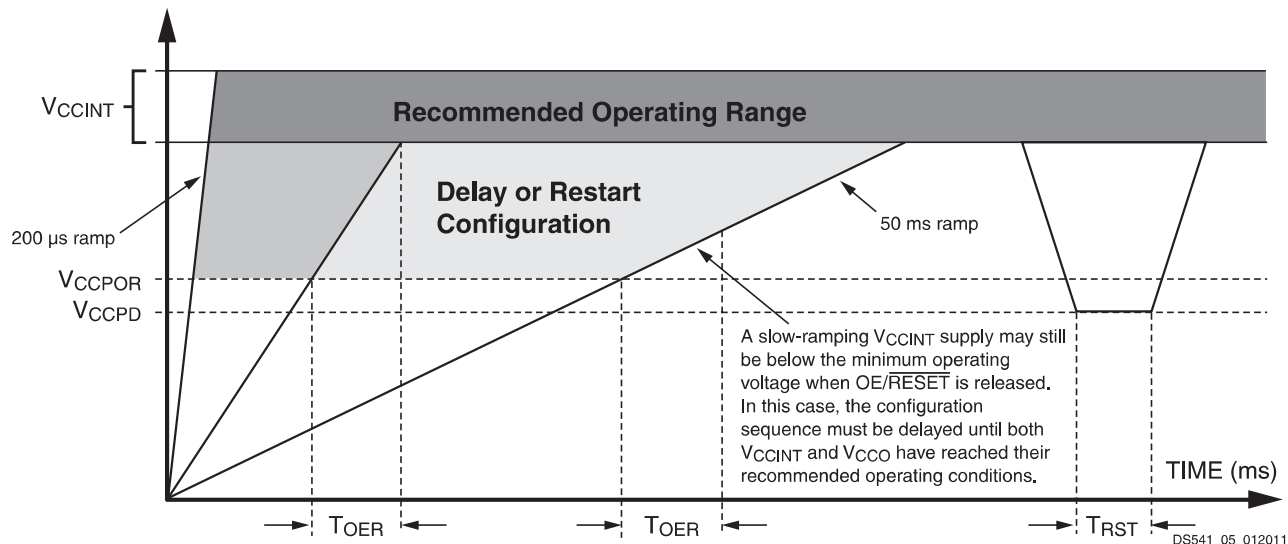

Figure 5: Platform Flash PROM Power-Up Requirements
At power up, the device requires the V_{CCINT} power supply to monotonically rise to the nominal operating voltage within the specified V_{CCINT} rise time. If the power supply cannot meet this requirement, then the device might not perform power-on reset properly. During the power-up sequence, $\overline{OE}/\overline{RESET}$ is held Low by the PROM. Once the required supplies have reached their respective POR (Power On Reset) thresholds, the $\overline{OE}/\overline{RESET}$ release is delayed (T_{OER} minimum) to allow more margin for the power supplies to stabilize before initiating configuration. The $\overline{OE}/\overline{RESET}$ pin is connected to an external 4.7 k Ω pull-up resistor and also to the target FPGA's INIT pin. For systems utilizing slow-rising power supplies, an additional power monitoring circuit can be used to delay the target configuration until the system power reaches minimum operating voltages by holding the $\overline{OE}/\overline{RESET}$ pin Low. When $\overline{OE}/\overline{RESET}$ is released, the FPGA's INIT pin is pulled High allowing the FPGA's configuration sequence to begin. If the power drops below the power-down threshold (V_{CCPD}), the PROM resets and $\overline{OE}/\overline{RESET}$ is again held Low until the after the POR threshold is reached. $\overline{OE}/\overline{RESET}$ polarity is not programmable. These power-up requirements are shown graphically in Figure 5.
- At power up, the device requires the V_{CCINT} power supply to monotonically rise to the nominal operating voltage within the specified T_{VCC} rise time. If the power supply cannot meet this requirement, then the device might not perform power-on-reset properly. See Figure 5, page 10.